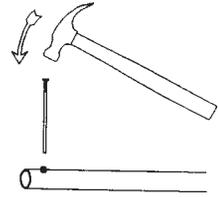

Figure 4
1. **Push roll pin out** with a drift punch (or cut off nail) and hammer (see Figure 4) and remove spring and ring. (See parts list on page 4 should you wish to replace any part.)